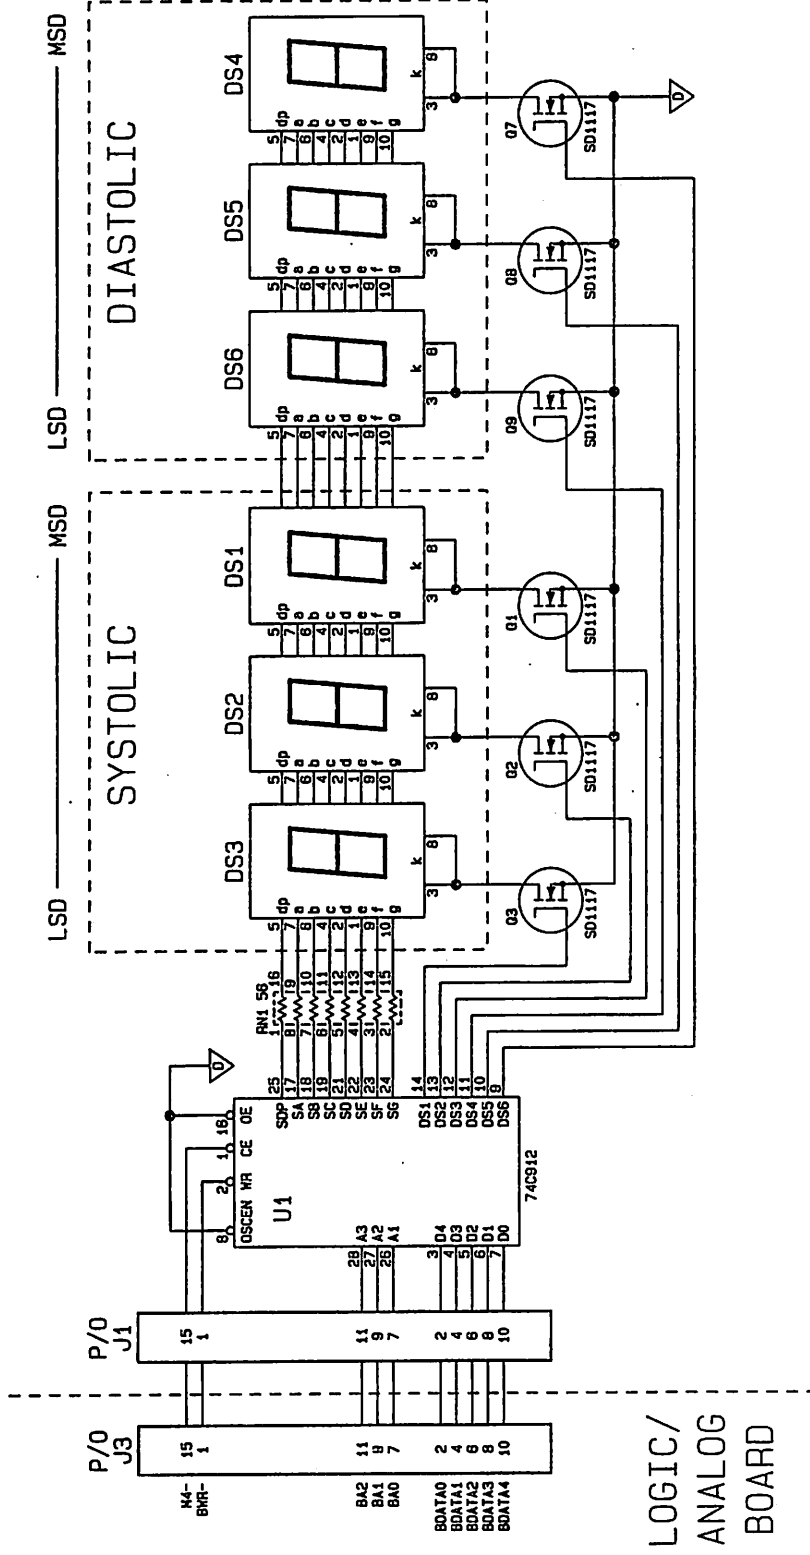

Figure 3-20. 7-Segment Display Driver Circuit
3.7.1 7-Segment Displays (figure 3-20)